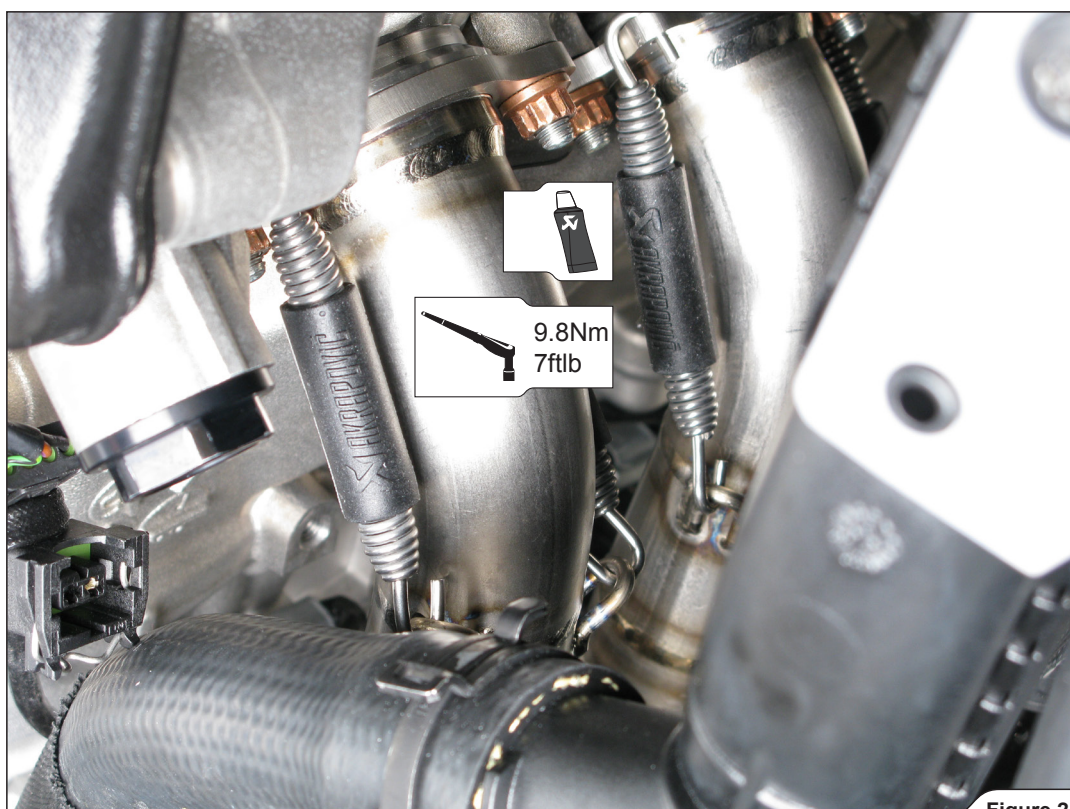

Figure 21
5. Insert the outer header tubes all the way into the sleeves, attach the springs and tighten the outer flanges to a specified torque (**Figure 21**).